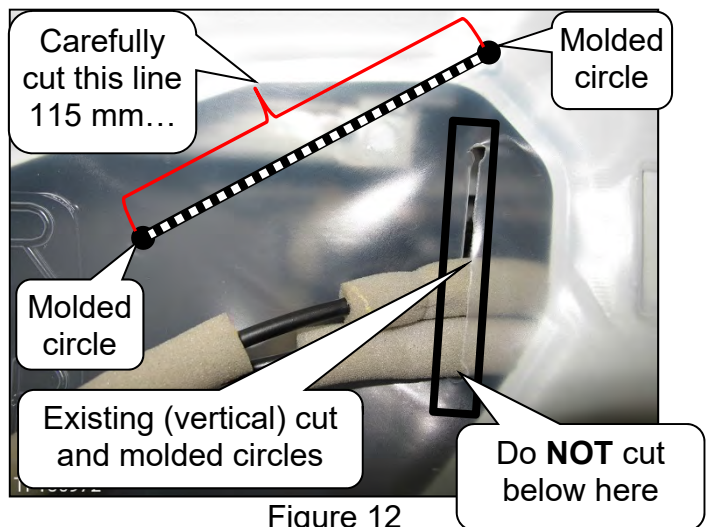

Figure 12
2. Carefully cut the 115 mm line (see Figure 12) in the vapor barrier from molded circle to molded circle with a sharp suitable tool.